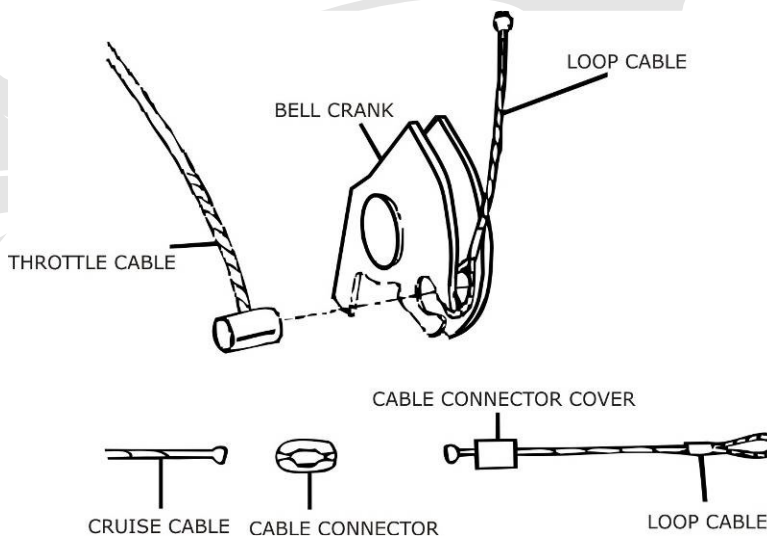

Fig.30
- Install the loop cable to the throttle bell crank using the cable loop and clip provided in your kit.(Fig.30)
- Remove the pull cable from the bell crank. Place the cruise servo loop cable in the area of the pull cable hole connection. Reinstall the pull cable with the loop cable over the pin on the end of the pull cable and reinsert the pull cable into the bell crank.(Fig.30)